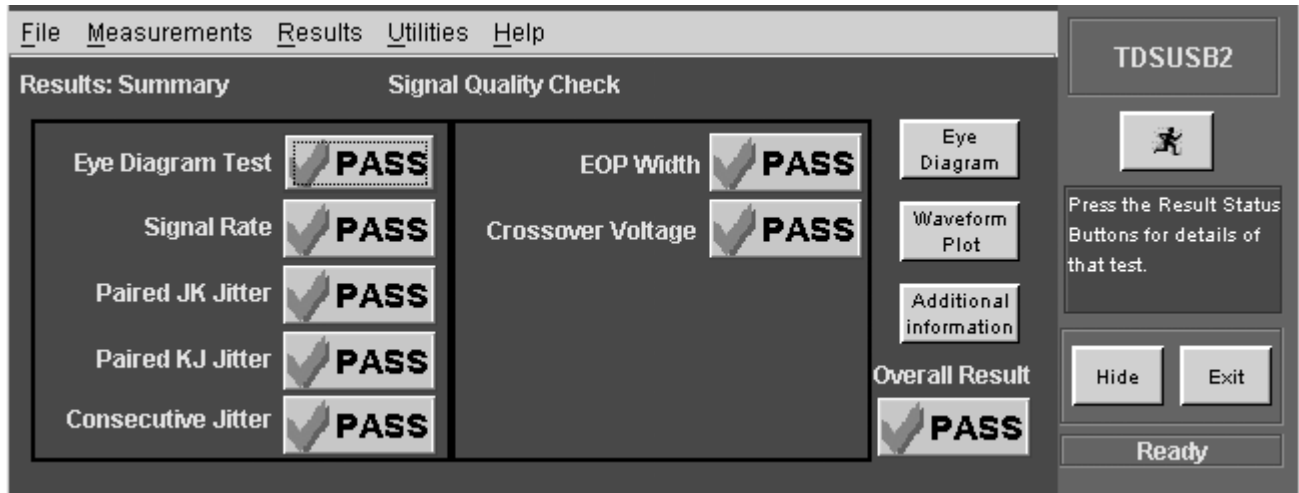

Figure 2-62: Summary results for full speed signal quality for downstream testing
1. From the application menu, select Results> Summary. Figure 2-62 shows the summary results.